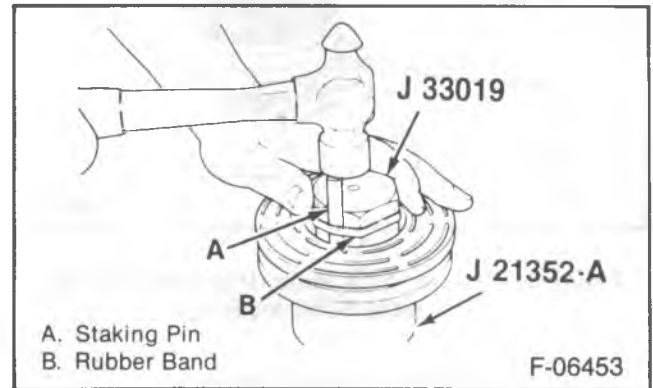

Figure 13—Staking the Pulley Bearing in the Pulley Bore
- Seat the pulley and bearing assembly on J 21352-A to support to the hub under the staking pin location (figure 13).